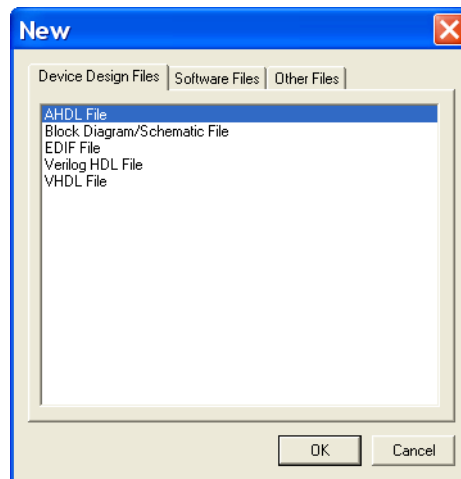
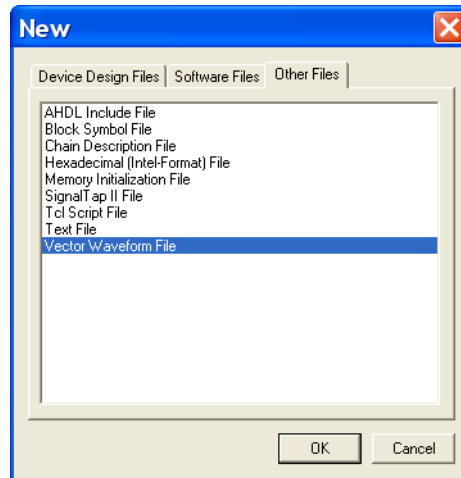

Figure 3. Need to prepare a new file.
Figure 4. Choose to prepare a test-vector file.
1. Open the Waveform Editor window by selecting **File > New**, which gives the window shown in Figure 3. Click on the **Other Files** tab to reach the window displayed in Figure 4. Choose **Vector Waveform File** and click OK.